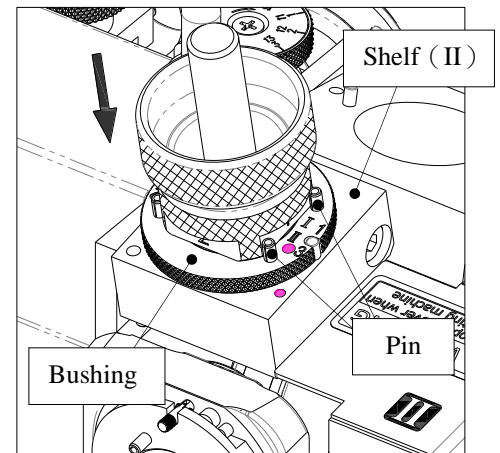

Fig. 19-2
2. 4 Flute End Gash Grinding (II) (Fig. 19-2)
- ① Insert the Chuck set into the bushing on Shelf (II), align Slot No.1 of the Chuck set with the two pins where marked as No.(1 · 3), gently push the Chuck set into the shelf until the grinding noise stops.
- ② Take out the Chuck set; turn it to Slot No.3, align Slot No.3 of the Chuck set with the two pins on the bushing where marked as No.(1 · 3), gently push the Chuck set into the shelf until the grinding noise stops, then take out the Chuck set.
- ③ Take out the bushing; turn it by 180° to No.(2 · 4), align No.(2 · 4) of the bushing with the Pin on the shelf, then insert the bushing into the shelf.
- ④ Insert the Chuck set into the bushing on Shelf (II), align Slot No.2 of the Chuck set with the two pins where marked as No.(2 · 4), gently push the Chuck set into the shelf until the grinding noise stops.
- ⑤ Take out the Chuck set; turn it to Slot No.4, align Slot No.4 of the Chuck set with the two pins on the bushing where marked as No.(2 · 4), gently push the Chuck set into the shelf until the grinding noise stops.